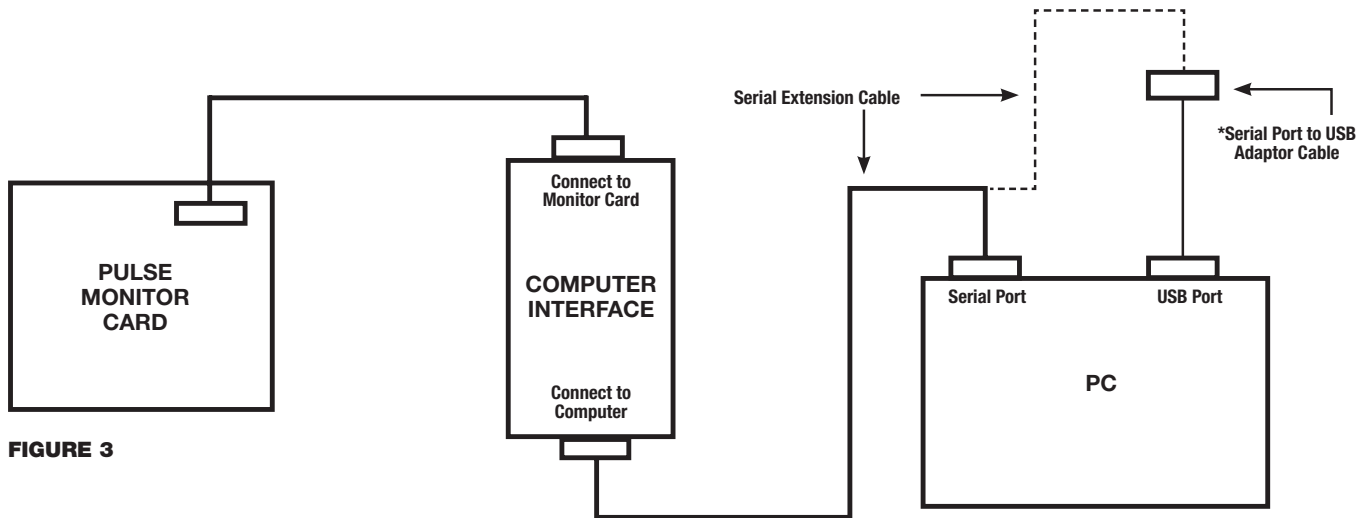

FIGURE 3
Initial programming can be done before or after the Pulse monitor card is installed. Open the Pulse software on your computer and connect the Pulse monitor card as shown in Figure 3. It is recommended that the following parameters be set before collecting any data.
1. Connect the Pulse monitor card, computer interface, PC and serial extension cables as shown in Figure 3.